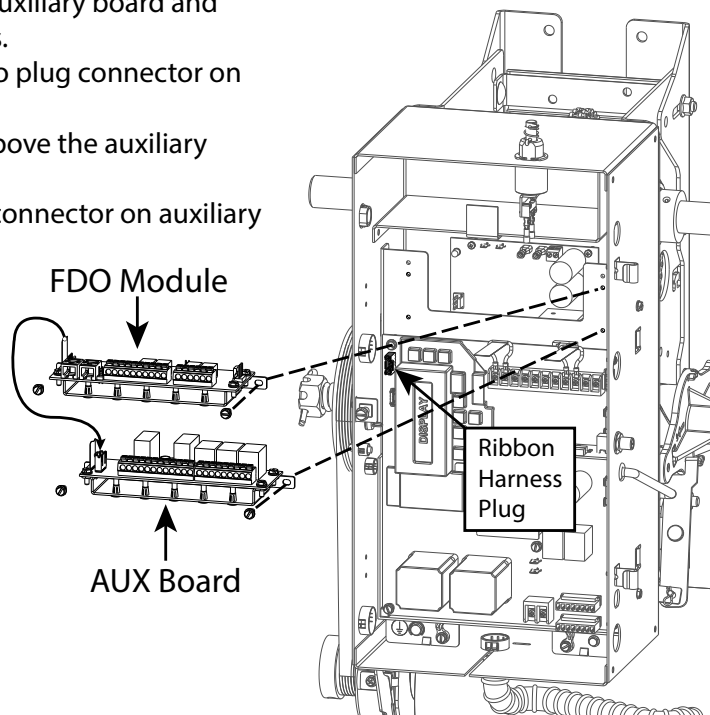

Fig 25
- 1) Unplug FDO module ribbon harness from main control board plug connector. Fig. 25